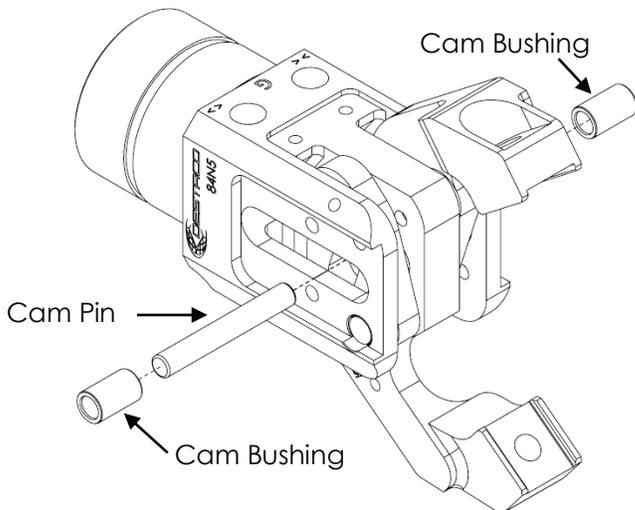

Fig.9
4. Important: Remove upper jaw first. Remove the Cam pin and the Cam bushing which pass thru the jaw and the piston clevis (see Fig.9).